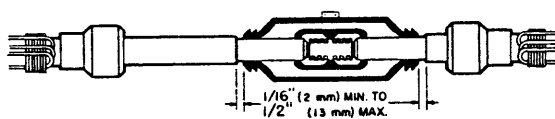

FIG. 4
8. Center splice body over connector as in Figure 4.